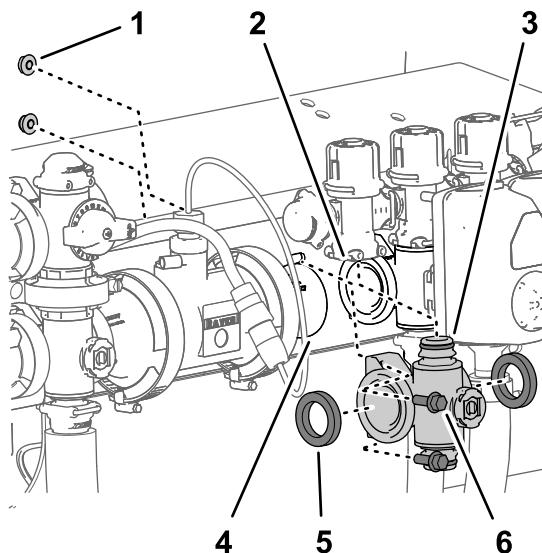
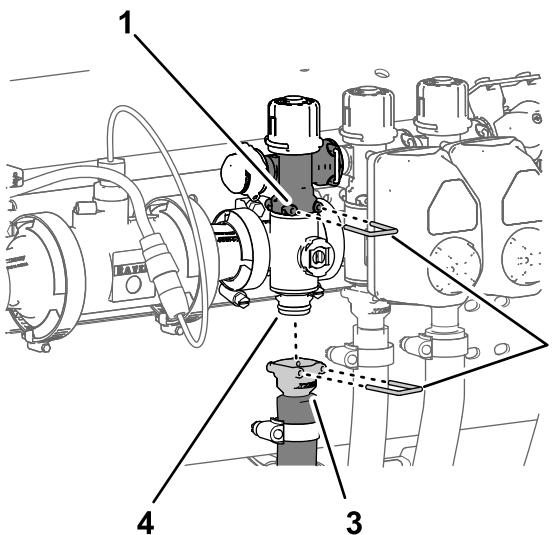

Figure 132
Figure 133
1. Align the 2 gaskets that you removed in Removing the Section-Manifold Valve \(page 85\) to the flanges of the section-valve manifold (Figure 132).
2. Align the flange of the section-valve manifold between the flanges of the other section-valve (s) and/or coupling adapter (Figure 132).
3. Assemble the quick-connect fitting of the section-valve manifold to the quick-disconnect socket of the section-bypass valve with a quick-connect pin (Figure 132 and Figure 133).
5. For left or right section-valve manifolds, assemble the section-valve manifold to the valve support (Figure 132) with the 2 flange-head bolts (1/4 x 3/4 inch) and 2 flange locknuts (1/4 inch) that you removed in Removing the Section-Manifold Valve \(page 85\).
8. Assemble the quick-connect coupler of the section hose onto the quick-connect fitting of the section-valve manifold with the quick-connect pin (Figure 133).